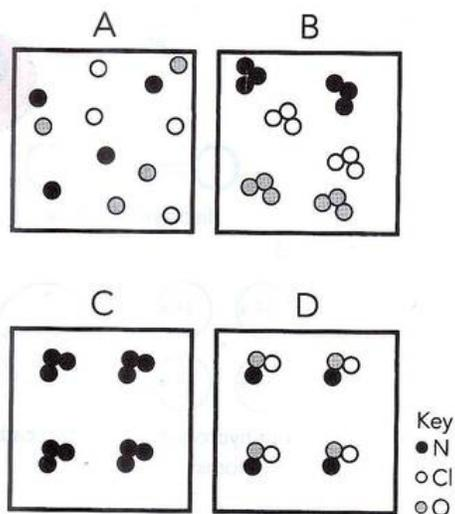

Figure 3.11: Representations of various gases.
- 2 A gas is made up of simple molecules that have the formula NOCl. Which of the diagrams A–D in Figure 3.11 correctly represents the molecules of NOCl?